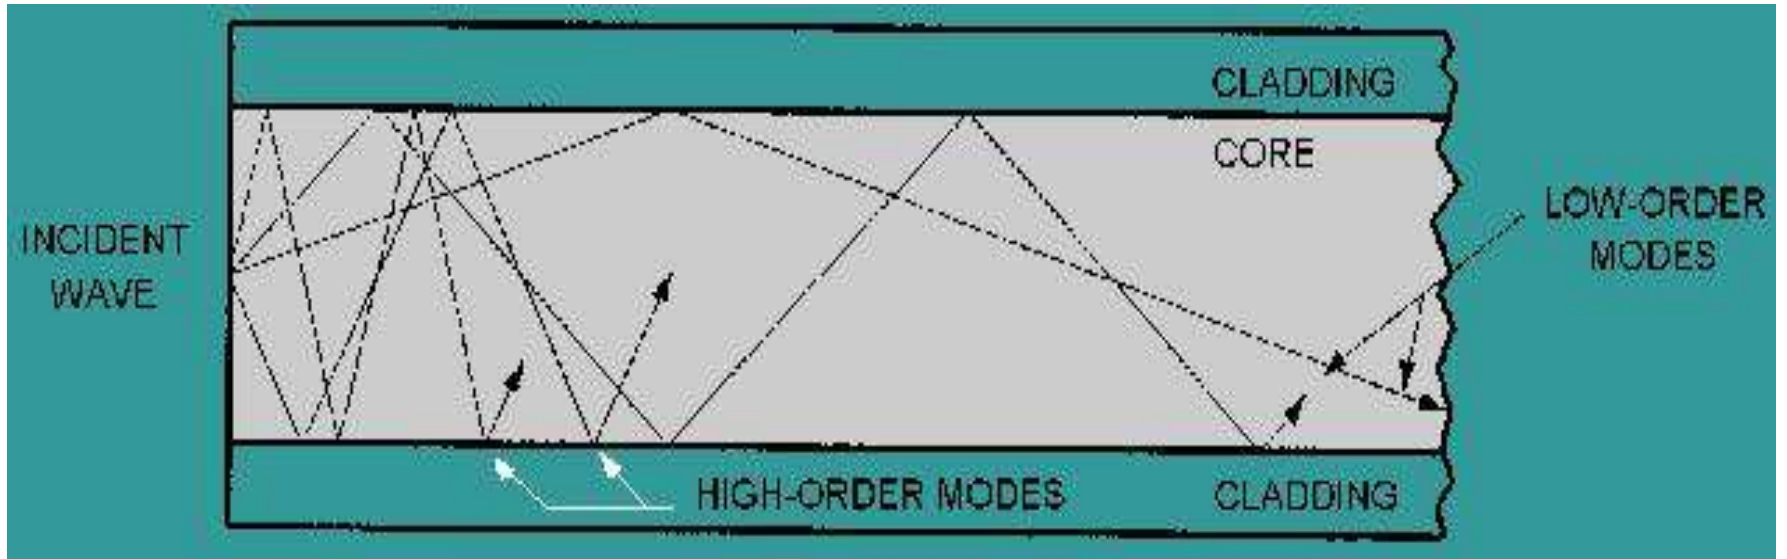

Fig. 2.6 Low-order and high-order modes
- Fig. 2.6 illustrates light rays as they travel down the fiber.
- Low-order and high-order modes are shown in Fig. 2.6.